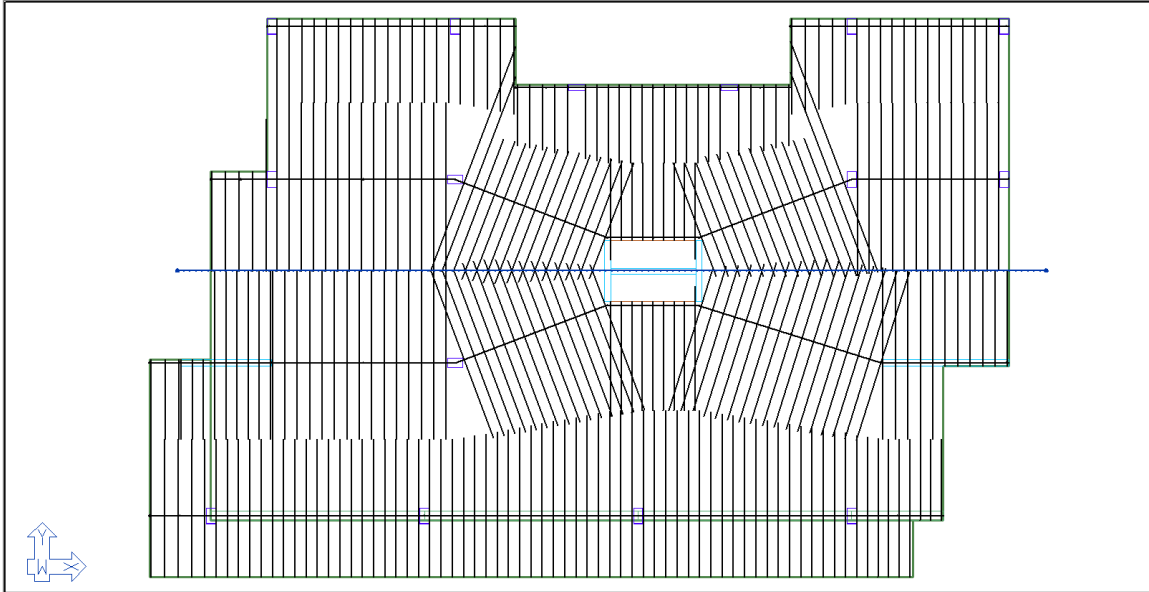

FIGURE 9-23
- Click **ESC** key on your keyboard to exit out of the *Create X-direction Splitter* tool. When finished the users screen should look like **FIGURE 9-23**.